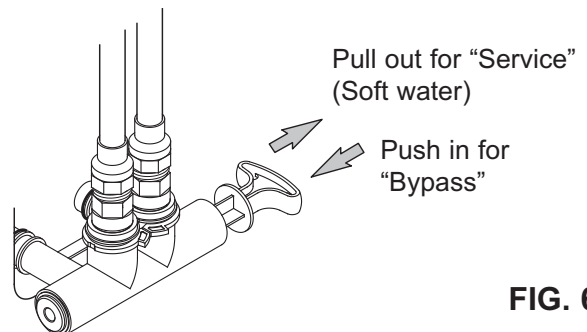
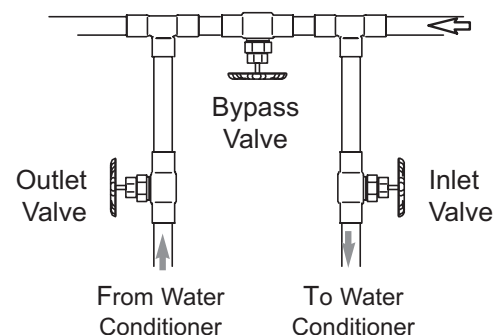

FIG. 6
FIG. 7
Always install either a single bypass valve (provided), as shown in Figure 6, or, if desired, parts for a 3 valve bypass system (not included) can be purchased and assembled, as shown in Figure 7. Bypass valves allow you to turn off the water to the conditioner for maintenance if needed, but still have water in house pipes.
3. Place bypass valve(s) in "bypass" position (see Figures 6 & 7). On a single valve, slide the stem inward to bypass. On a 3-valve bypass, close the inlet and outlet valves and open the bypass valve.